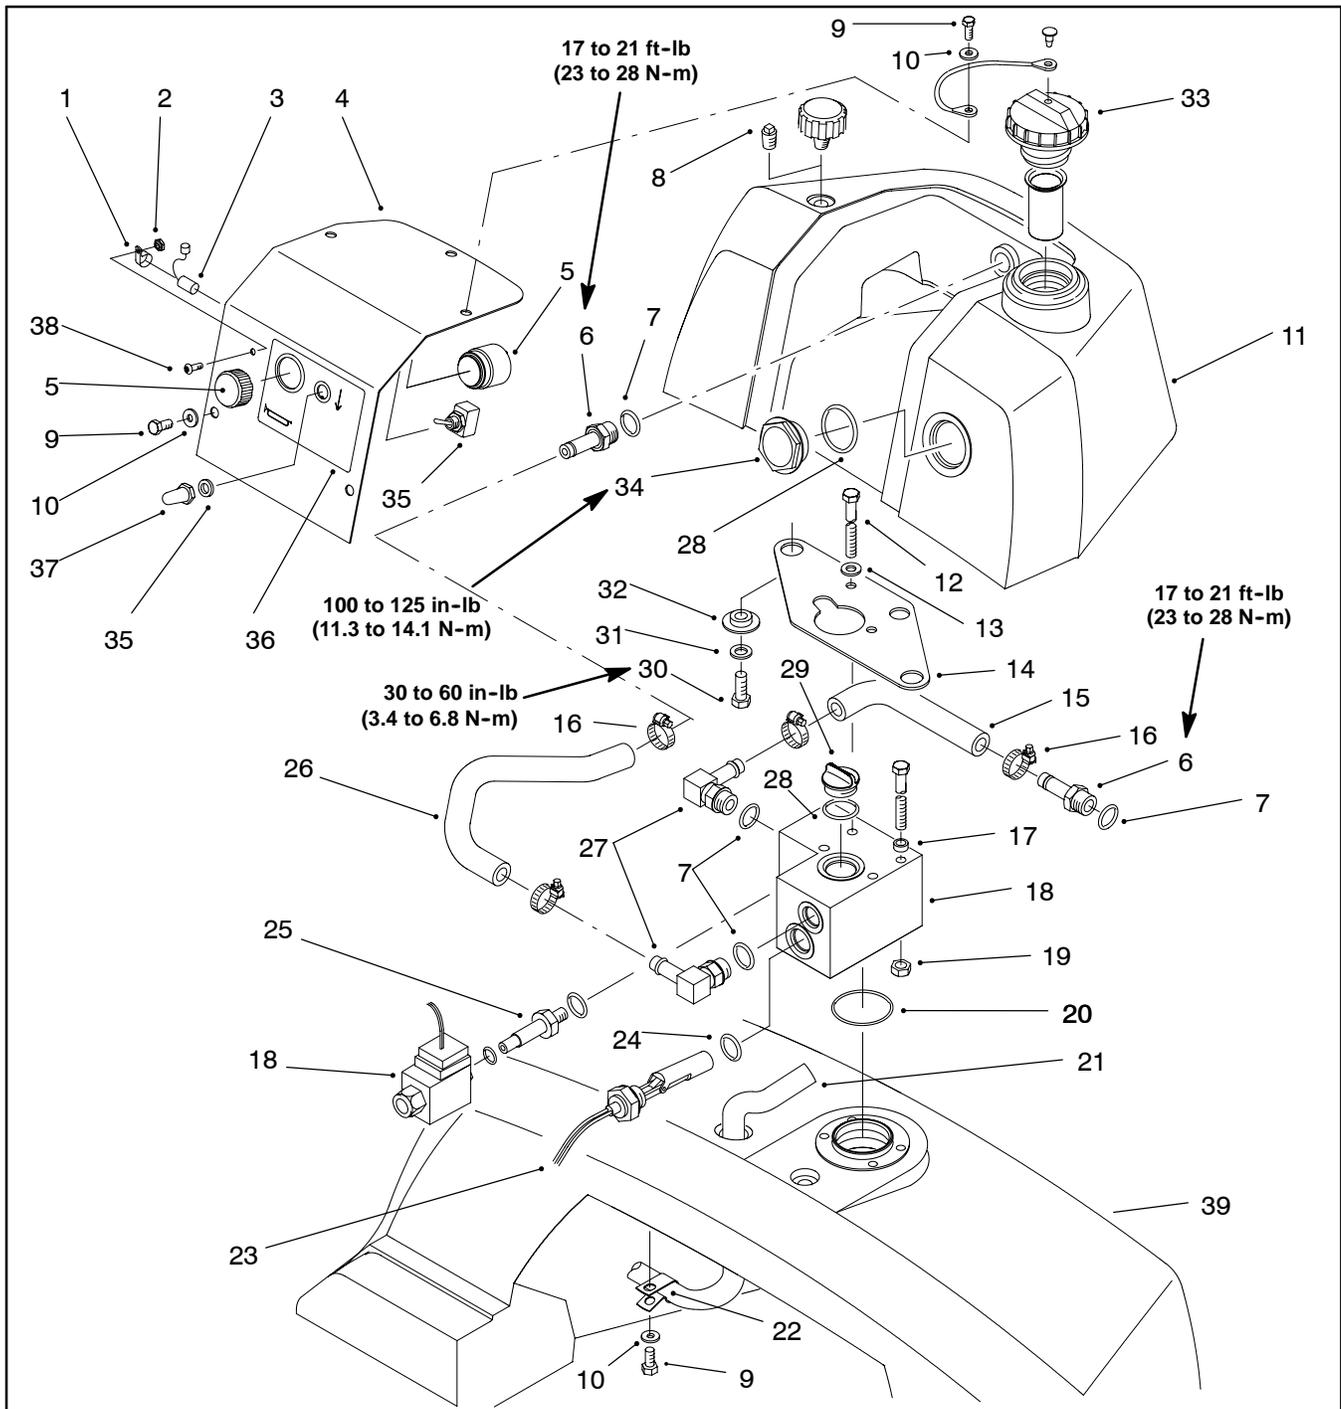

Figure 88
Removal (Fig. 88)
Installation (Fig. 88)
Disassembly and Inspection (Fig. 88)
1. The leak detector can be disassembled using the leak detector assembly drawing (Fig. 88) as a guide.
Assembly (Fig. 88)